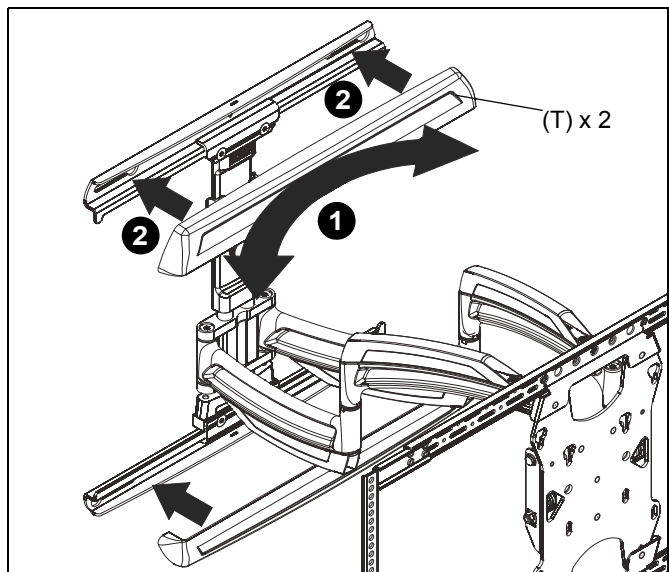

Figure 18
1. Turn wall cover (T) outward to allow outside of covers to wrap around wall rail. (See Figure 18)
2. Place wall cover (T) over wall rail. (See Figure 18)